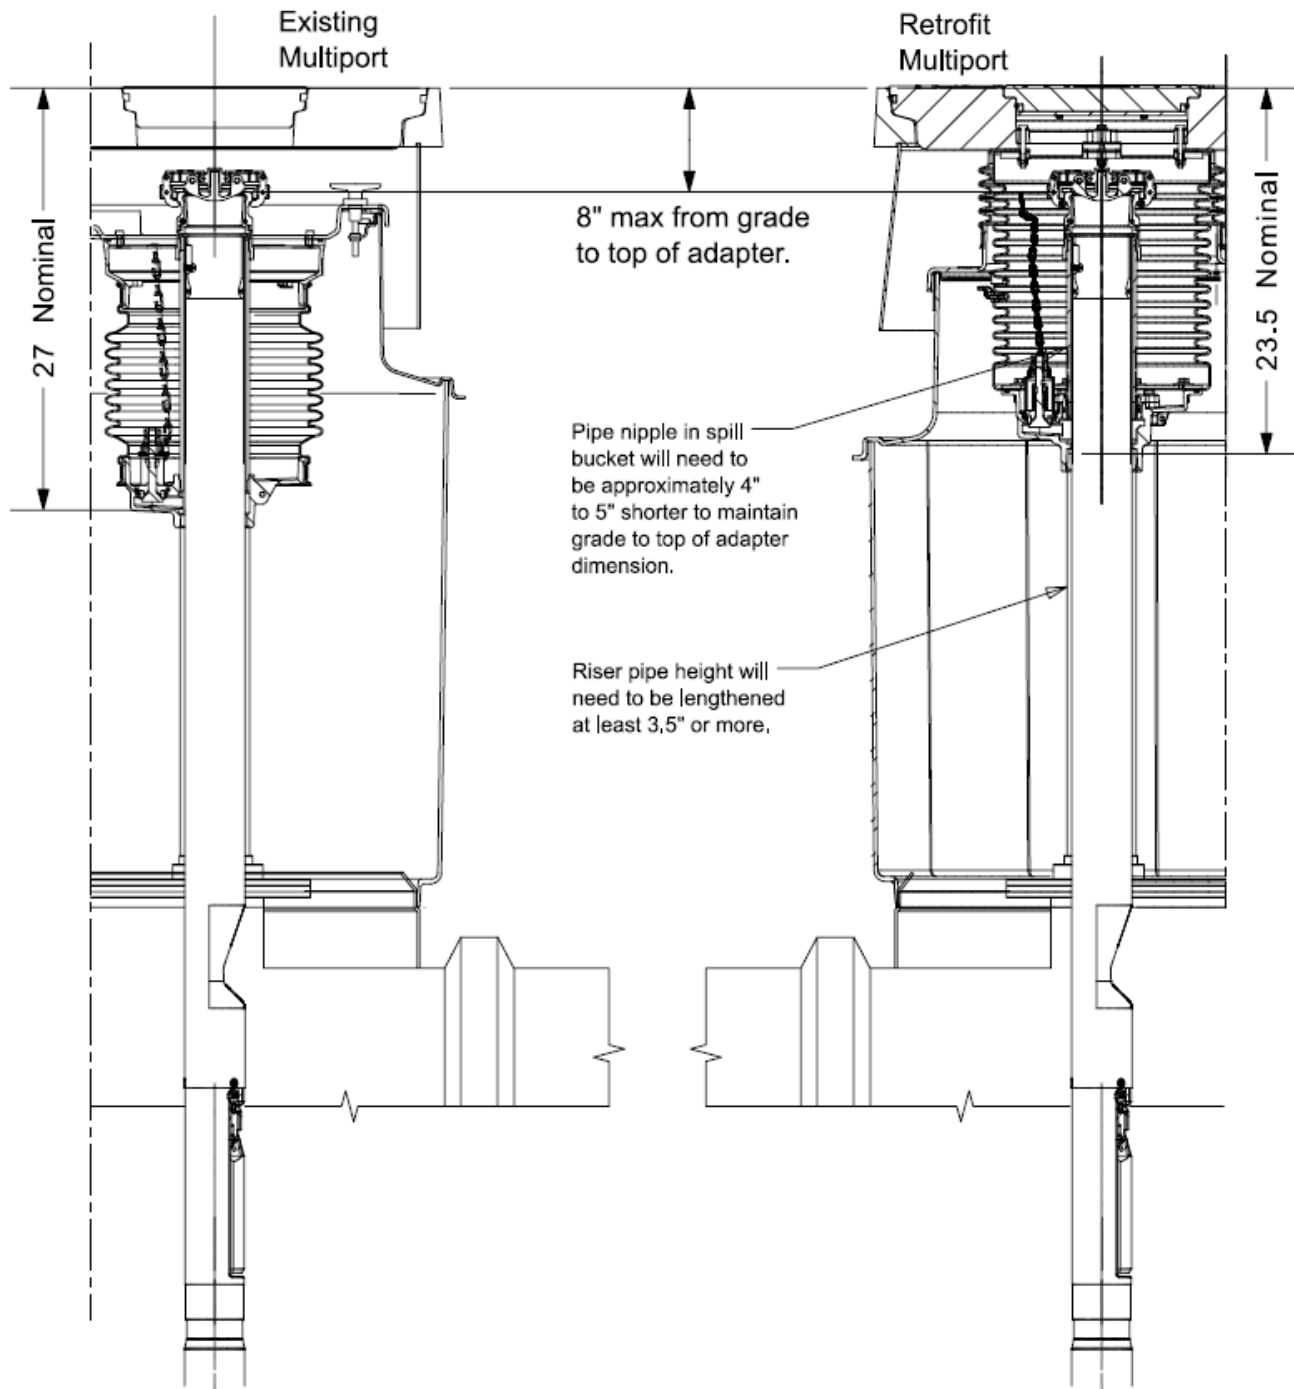

Figure 32
- 53. If desired, the existing drop tube / overfill valve can potentially be used with the retrofit installation. Determine mounting location of current drop tube / overfill valve (See Figure 32 and 33 for the two most common scenarios).
**Scenario #1 (Figure 32) -** If drop tube / overfill valve is mounted at the adapter (the drop tube / overfill valve can be used as if the grade to adapter height is maintained. Measure existing grade to adapter height and maintain with new configuration. Confirm dimensions meet requirements in the drop tube / overfill valve instructions when reinstalling.